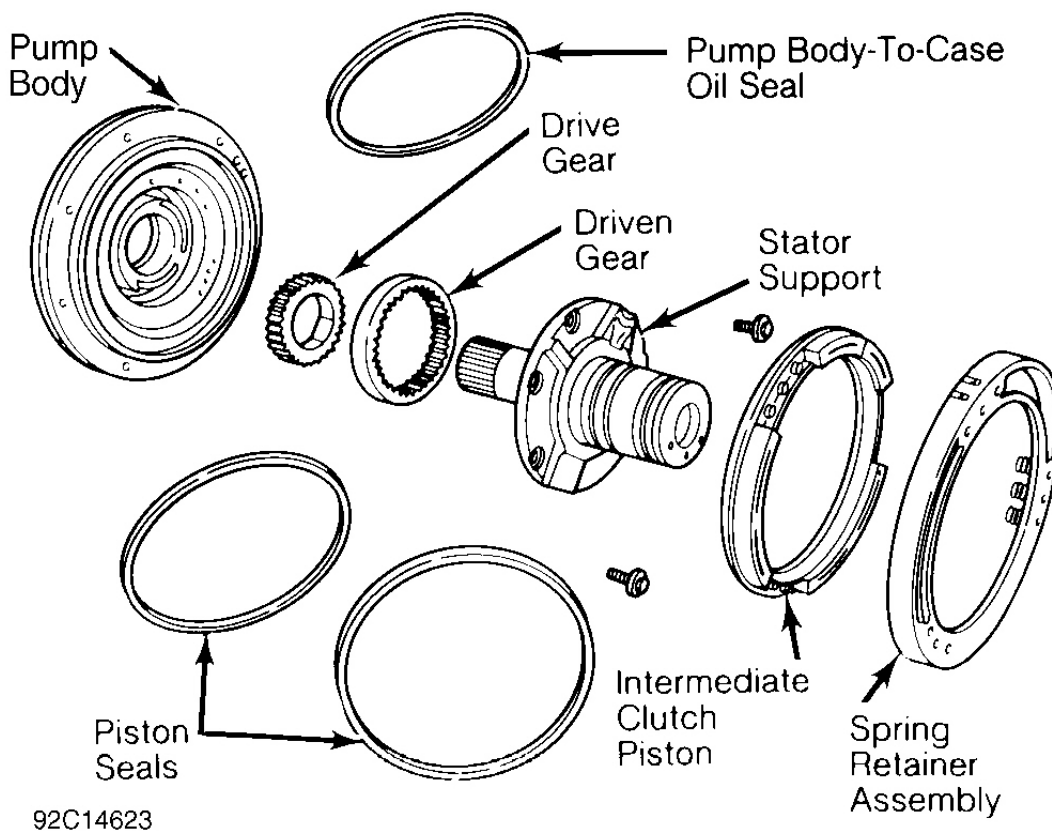

Fig. 40: Exploded View of Oil Pump & Intermediate Clutch
1. Lift No. 1 thrust washer from stator support. Remove 4 seal rings from stator support. Remove pump body-to-case seal and discard. See **Fig. 40** .